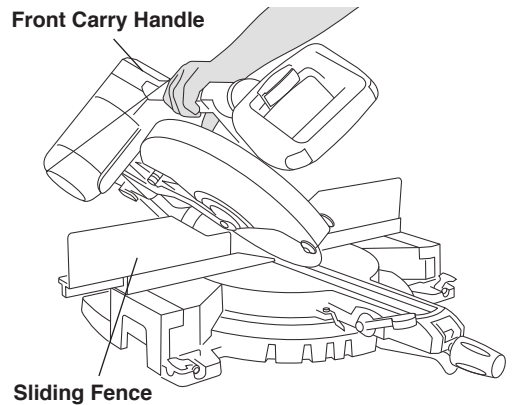

Figure 34.
- a. Extend left sliding fence to clear saw assembly and re-lock (Figure 34).
- c. Grasp the front carry handle with right hand and tilt saw head to angle desired (Figure 34).
- c. Standing on right side of saw, grasp the front carrying handle with right hand and tilt saw head slightly to the left while rotating the bevel range selector knob with left hand to “0-45° Right” (Figure 34).
- a. Move left or right sliding fence to clear saw assembly and re-lock (Figure 34).
- c. Standing on right side of saw, grasp the front carrying handle with right hand and tilt saw head slightly to the left while rotating the bevel range selector knob with left hand to “Max Range” (Figure 34).